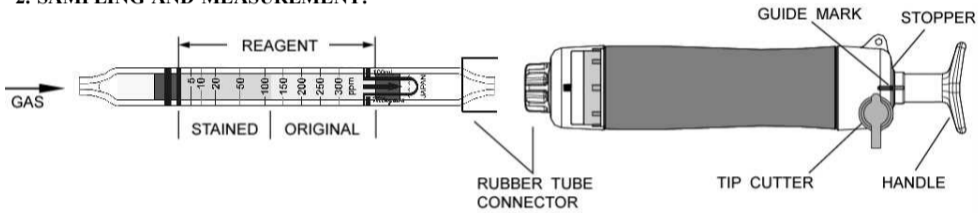

Fig.1
- ② Insert the detector tube into the aspirating pump securely as shown in Fig.1. (Arrow mark shall point to the pump.)
- ③ Align the guide marks on the shaft and stopper of the aspirating pump.
- ④ Pull the pump handle at a full stroke until it locks and wait for 1 minute or until the completion of sampling is confirmed with the flow indicator of the pump. (See descriptions about the flow indicator in the instruction manual of the pump.)
- ⑤ On completion of sampling, read the scale at the maximum point of the stained layer.
- ⑥ When the concentrations are below the scale range, 2 pump strokes can be used to determine concentrations of 2.5 to 150 ppm.